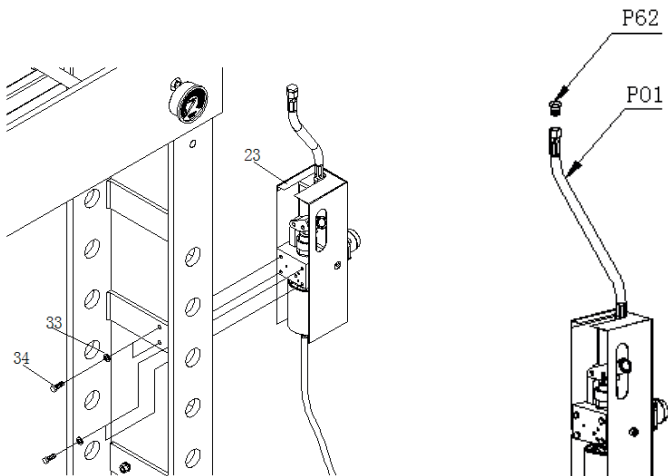

fig.4
1. Fix the pump assembly. (23) to the body frame by using Bolt(34) and Lock washer 10 (33). 17 (refer to fig.4)